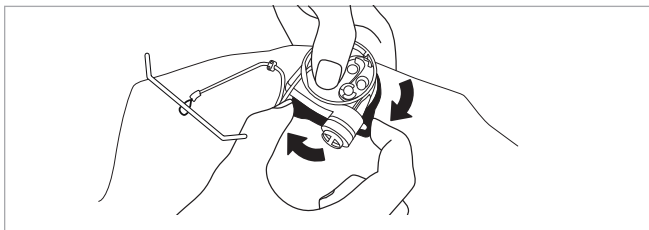

FIGURE 16 LOCK BLACK RING
- 9) While pressing **FIRMLY** onto the inflator body, turn the **BLACK** locking ring clockwise into the locked position (Fig. 16). Pull on the cap to make sure it has locked onto the inflator body.